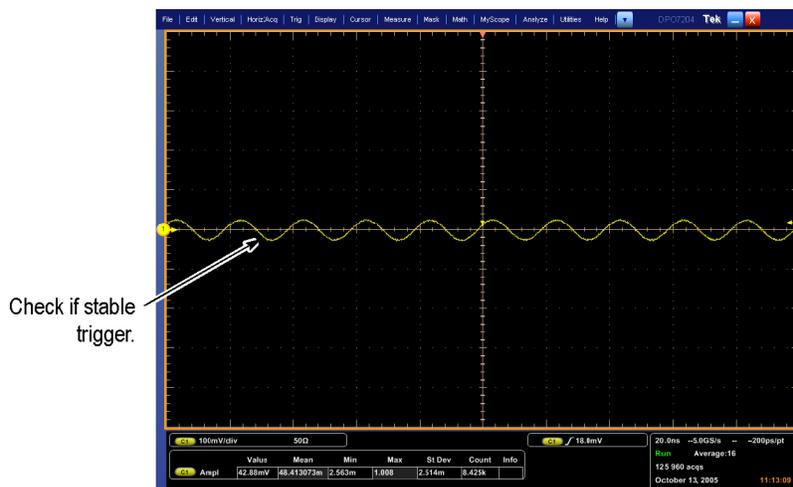

Figure 31: Measurement of trigger sensitivity - 50 MHz results shown
- CHECK that a stable trigger is obtained for the test waveform for both the positive and negative slopes of the waveform. (See Figure 31 on page 169.)
- CHECK that a stable trigger is obtained for the test waveform for both the positive and negative slopes of the waveform. Adjust the Trigger Level to stabilize the A trigger. Click **Level** and use the keypad or the multipurpose knob/Fine button to stabilize the B trigger. Click one of the Slope buttons to switch between trigger slopes. (See Figure 31 on page 169.)